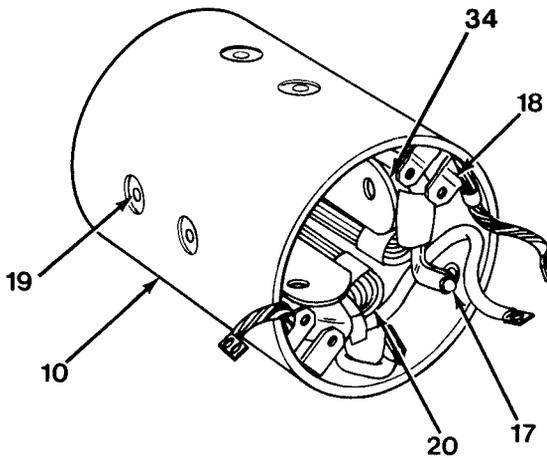
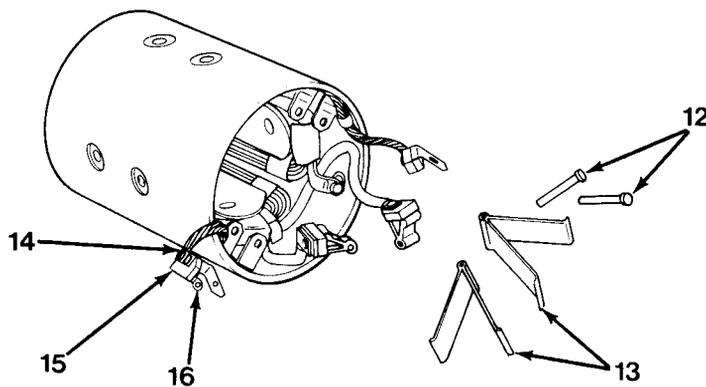

Figure 10-6
Figure 10-5
6. Install field coil assembly (20), pole shoes (34) and eight screws (19) to housing (10, Figure 10-6).
7. Install field coil solenoid connector (18) and connecting field screw (17) to housing (10).
8. Install four brush holders (16), brushes (15), brush screws (14), two brush springs (13) and pins (12) to housing (10, Figure 10-5).